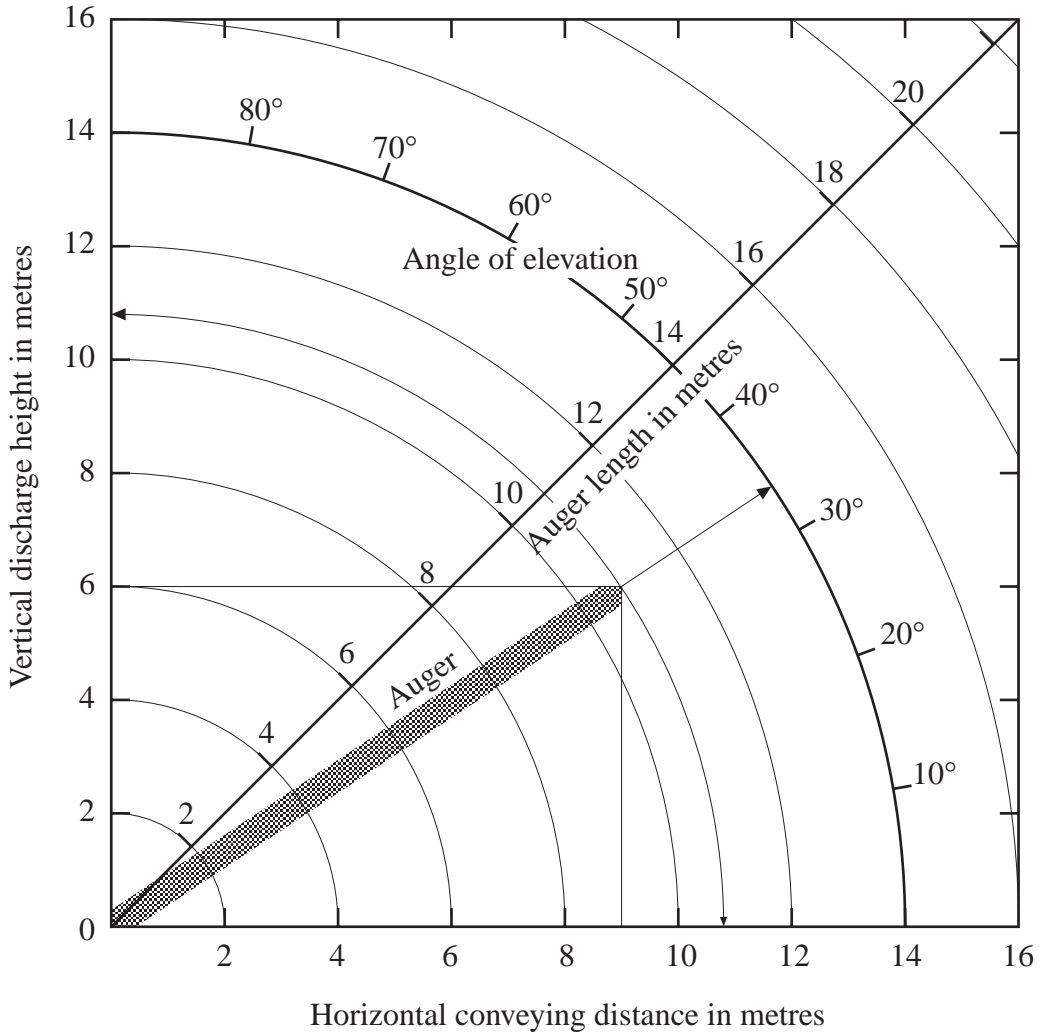

FIG. 3
- (n) The chart below (Figure 3) is used to determine lengths and angles when using augers to fill grain bins. The vertical discharge height is 6 metres. The horizontal conveying distance between the auger inlet and the filling point is 9 metres. Using the chart, determine the length of auger required and the angle of elevation.